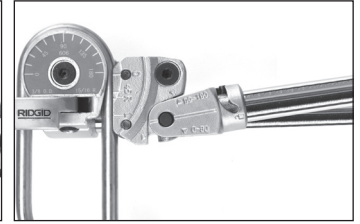

Figure 15
4. Swing the Carriage Handle around the Form until the “0” Line on the Carriage aligns with the desired bend angle (Figure 15). The Handles will not cross.